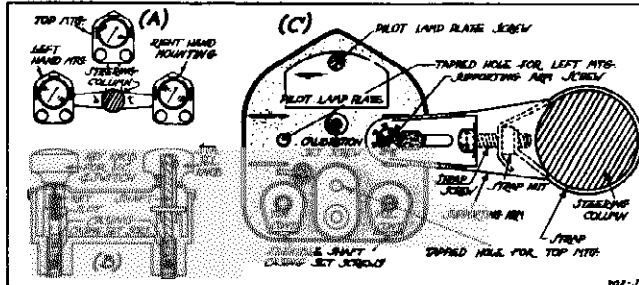

Fig. 5—Details of Control Unit Mounting
To calibrate the receiver, tune in a station of known frequency. At the back of the control unit is the calibration screw—see Fig. 5. Insert a screw driver and turn this screw until the pointer on the dial scale is at the frequency of the station being received.
If the shafts are not already secured to the control unit proceed as follows: First loosen the set screw in the volume control shaft housing at the back of the control unit. The volume control shaft may be identified by a brass fitting at both ends. The lower of these two fittings has a key slot and is inserted into the control unit as shown in Fig. 5 (B). Insert the shaft far enough so that the key knob engages and may be inserted all the way. The
The control unit is mounted on the steering column under the steering wheel as shown in Figs. 1 and 2. It is generally mounted in the right hand position, as shown in Figs. 1 and 2. It may also be mounted in the left hand or top position at the preference of the customer, see Fig. 5 (A).
For right hand mounting the supporting arm is screwed to the back of the control unit as shown in Fig. 5 (C). For left hand and top mountings use the correct tapped hole as indicated in the same illustration.
To attach the control unit, first remove the supporting arm by taking out the supporting arm screw—see Fig. 5 (C). Note that there are several holes in the strap. These are for different sizes of steering columns. Wrap the strap around the column and put the strap screw through the strap nut as shown in Fig. 5 (C). Do not tighten up the screw until the flexible shafts are attached.